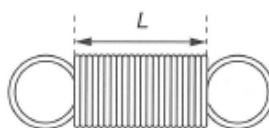

Fig. 1.1
- (a) Measure and record the unstretched length L of the coiled part of the spring, as shown in Fig. 1.1.